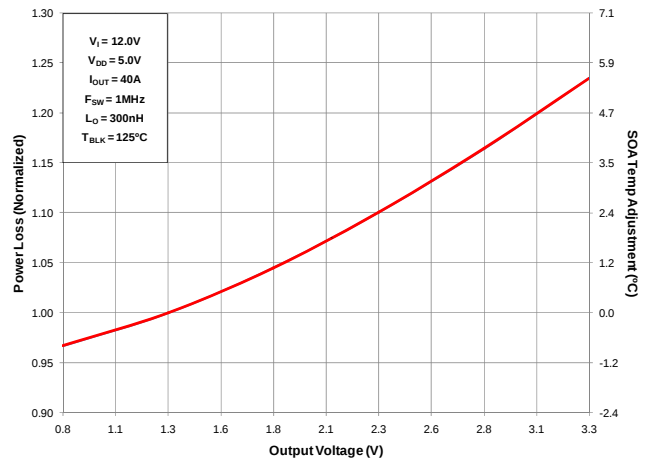

Figure 4 Normalized Power Loss vs. Output Voltage
- (Figure 4) Normalized power loss for output voltage ≈ 1.23
- (Figure 4) SOA temperature adjustment for output voltage $\approx 5.5^{\circ}\text{C}$